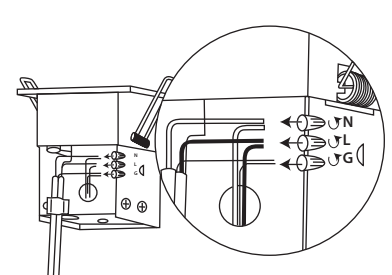

Figure 4
7. To complete installation, hold back the two steel spring clips on either side of the housing and push the fixture inside the cut 2-3/8" x 2-5/8" hole. See Figure 4.